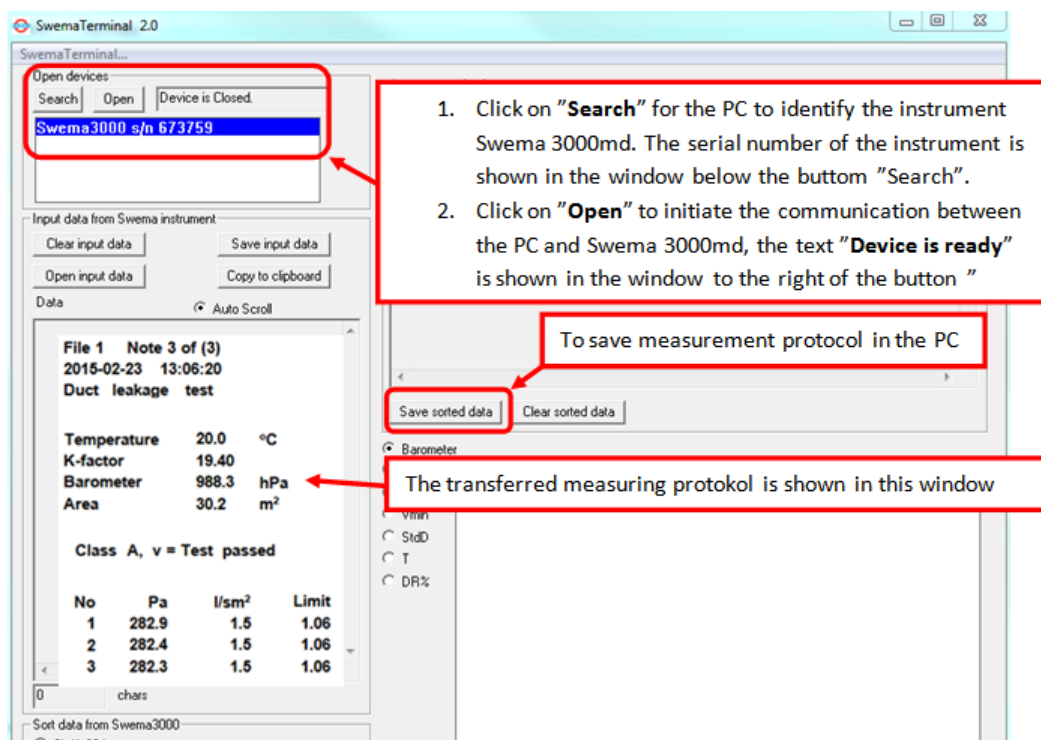

Fig 4. Transferred measurement protocol
3. Click on the button "**Search**" for the PC to find Swema 3000md, the serial number of the instrument is shown once the instrument is found. See Fig. 4 below.
6. Press "**Print**" on the instrument and the displayed measurement protocol is transferred to the PC. See Fig. 4 below.
7. To save the measurement protocol in the PC, click on the button "**Save sorted data**" on SwemaTerminal 2. Select or create a map and give a name to the file. See Fig. 4 below.